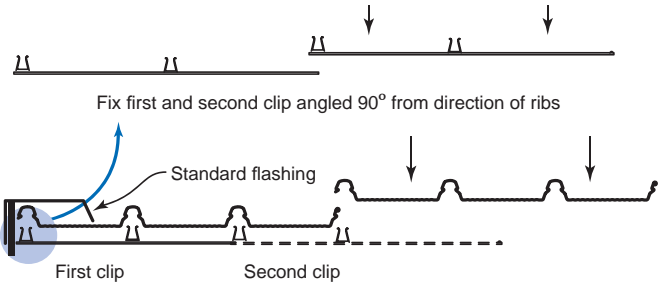

Figure 3
2. Position the first clips on each support by placing onto the support nearest the gutter. (Figure 3)